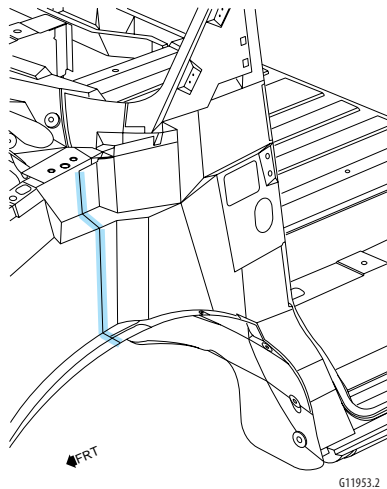
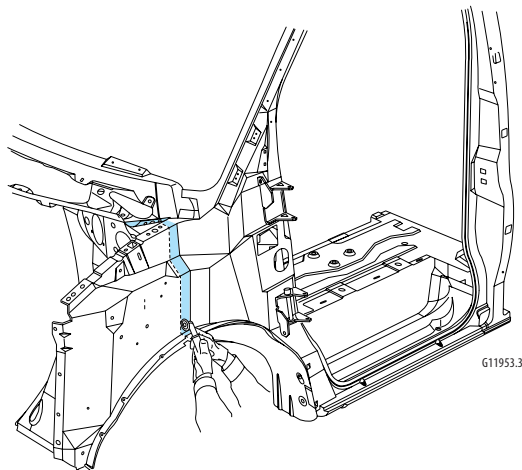

Figure 3-2:
Figure 3-3:
4. The sectioning procedure is to be performed at the door frame opening forward attachment seam (figure 3-2). Cut the original inner fender at the front edge of the seam (figure 3-3).